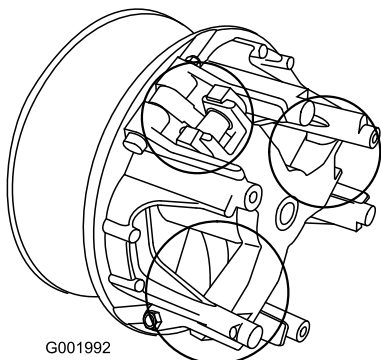

Figure 60
5. Lubricate the moving parts in the areas circled in Figure 60 using Toro Dry Lubricant Spray, available through your Authorized Toro Dealer or Distributor.